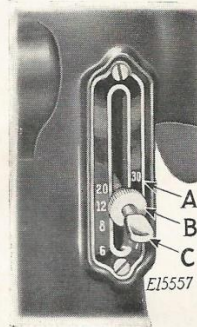

FIG. 15. SHOWING LEVER FOR REVERSING DIRECTION OF FEED AND REGULATING LENGTH OF STITCH
To feed the goods **from you**, push down the stitch regulator lever (C, Fig. 15) as far as it will go.
The machine can be adjusted to make from 6 to 30 stitches to the inch, as indicated by the numerals on the stitch indicator plate (A, Fig. 15).
The number of stitches to the inch that the machine is set to make is indicated by the number which is in line with the stitch regulator lever (C, Fig. 15).
To change the length of stitch, screw the thumb nut (B, Fig. 15) away from the stitch indicator plate (A) as far as it will go. Then move the stitch regulator lever (C) until it is in line with the number designating the desired length of stitch and screw the thumb nut (B) inward until it touches the stitch indicator plate.